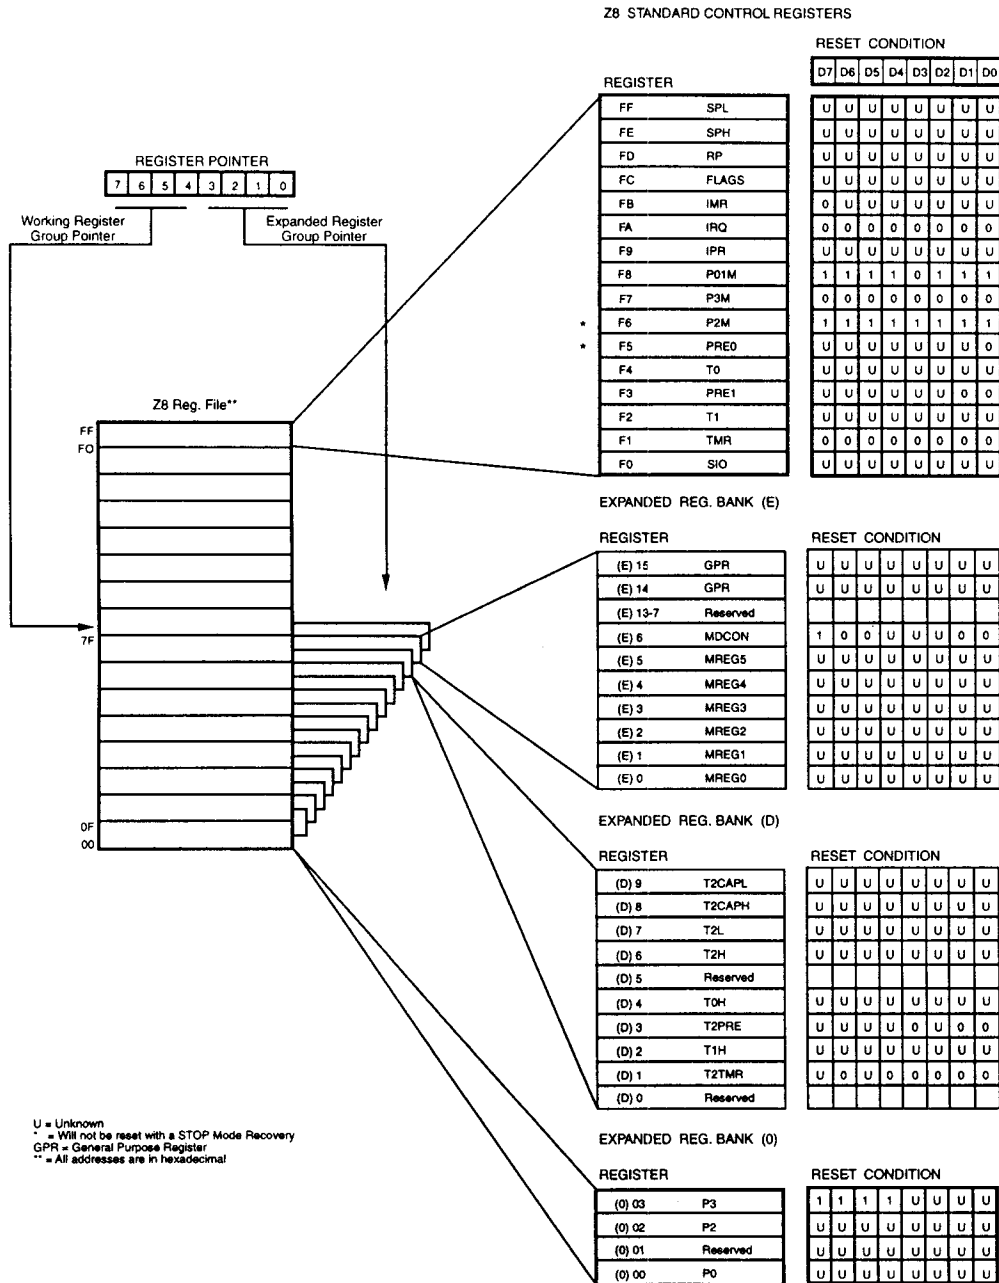
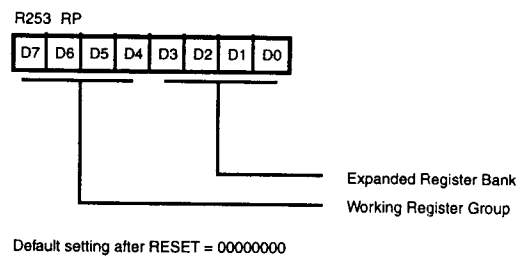

Figure 13. Register File
**Figure 14. Register Pointer Register**
**Expanded Register File.** The register file has been expanded to allow for additional system control registers, and for mapping of additional peripheral devices along with I/O ports into the register address area (Figure 13). The Z8 register address space R0 through R15 has now been implemented as 16 groups of 16 registers per group. These register groups are known as the ERF (Expanded Register File). Bits 7-4 of register RP select the working register group. Bits 3-0 of register RP select the expanded register group (Figure 14). The registers that are used in the multiply/divide unit reside in the Expanded Register File at Bank E and those for the additional timer control words reside in Bank D. The rest of the Expanded Register is not physically implemented and is open for future expansion.